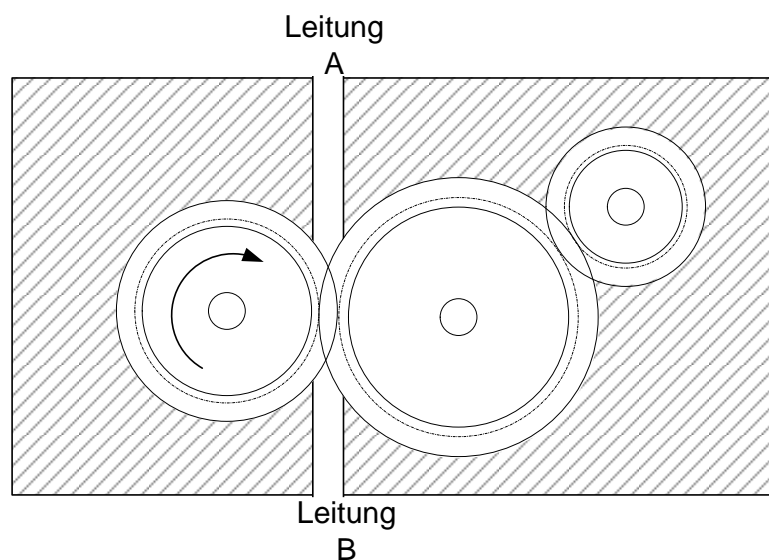

Fig. 3.3
- 3.9 The pump should be redesigned as follows, cf. Fig. 3.3. Where do the pressure and suction pipes of the additional displacement unit need to be attached? Moreover draw in the place and the direction of all flow rates. About how many percent does the complete displacement volume of the unit change? (1.5 Points)